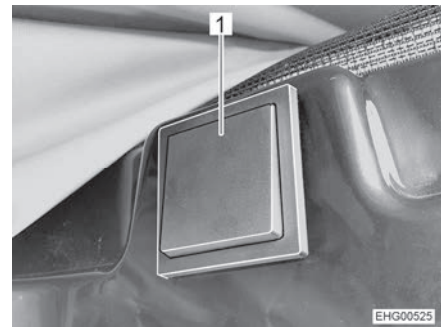

Fig. 88 Push button for electrical release
The push button for the electrical release (Fig. 88) is located on the right-hand side in the area above the sliding door.
- Press and hold the push button (Fig. 88,1) for least 2 seconds.